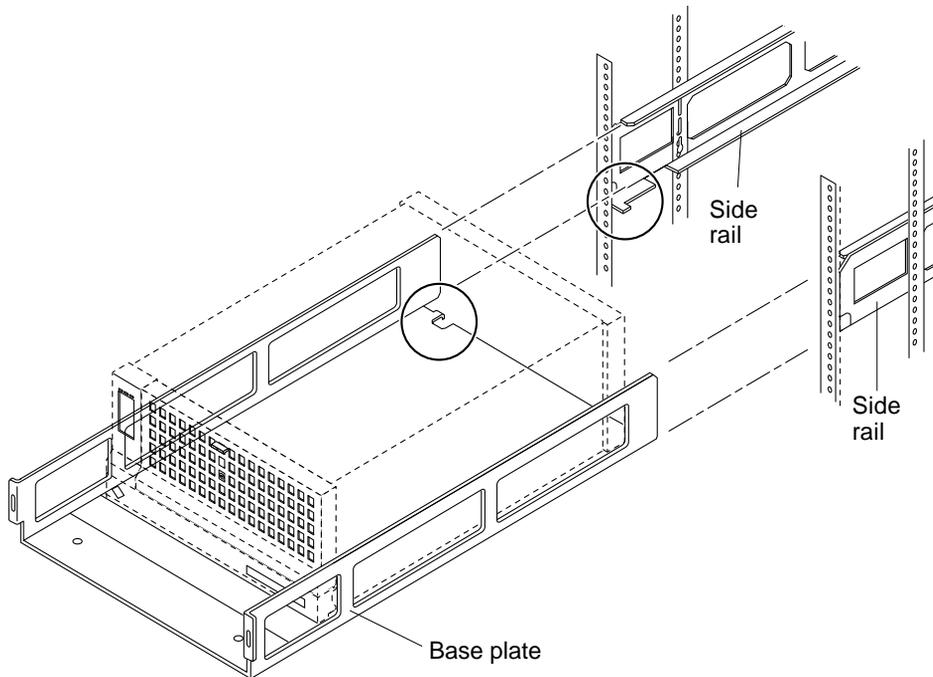

FIGURE 9-24 Removing the Chassis and Baseplate From the Rack
5. With the aid of an assistant, slide the disk array out of the rack until the chassis baseplate is stopped by the tabs on the side rails in the rack (FIGURE 9-24).
2. **With the aid of an assistant, slide the disk array into the rack until the chassis baseplate is stopped by the tabs on the side rails in the rack (FIGURE 9-24 on page 9-38).**